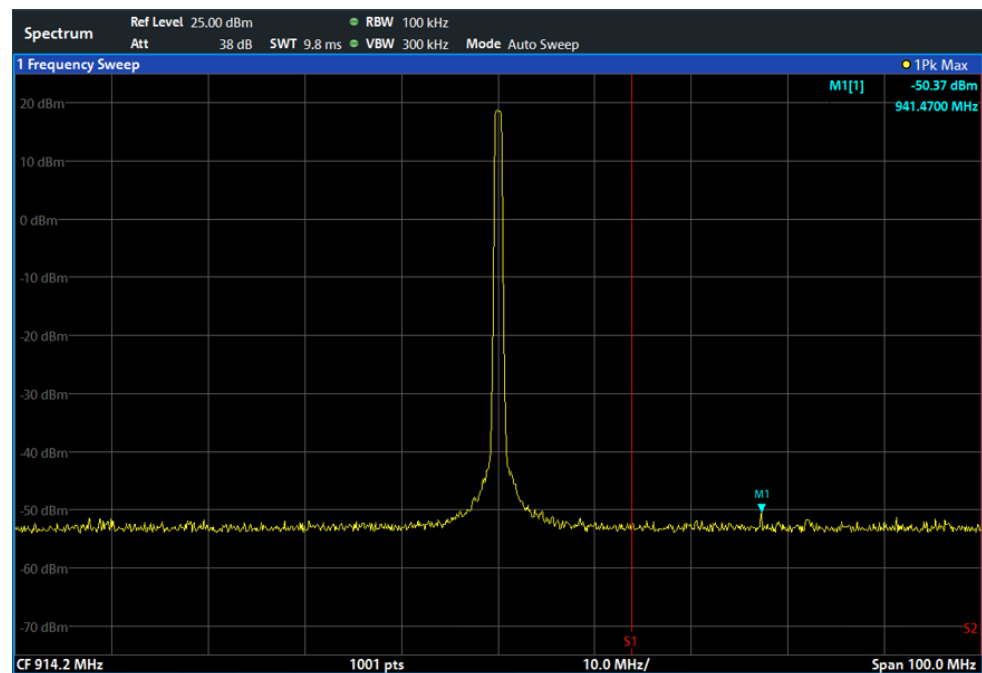

Figure 2-14: Measurement of maximum radiated power at upper edge of ISM band
14. The marker now indicates the highest level value M1 within the frequency range to be analyzed (Figure 2-14).